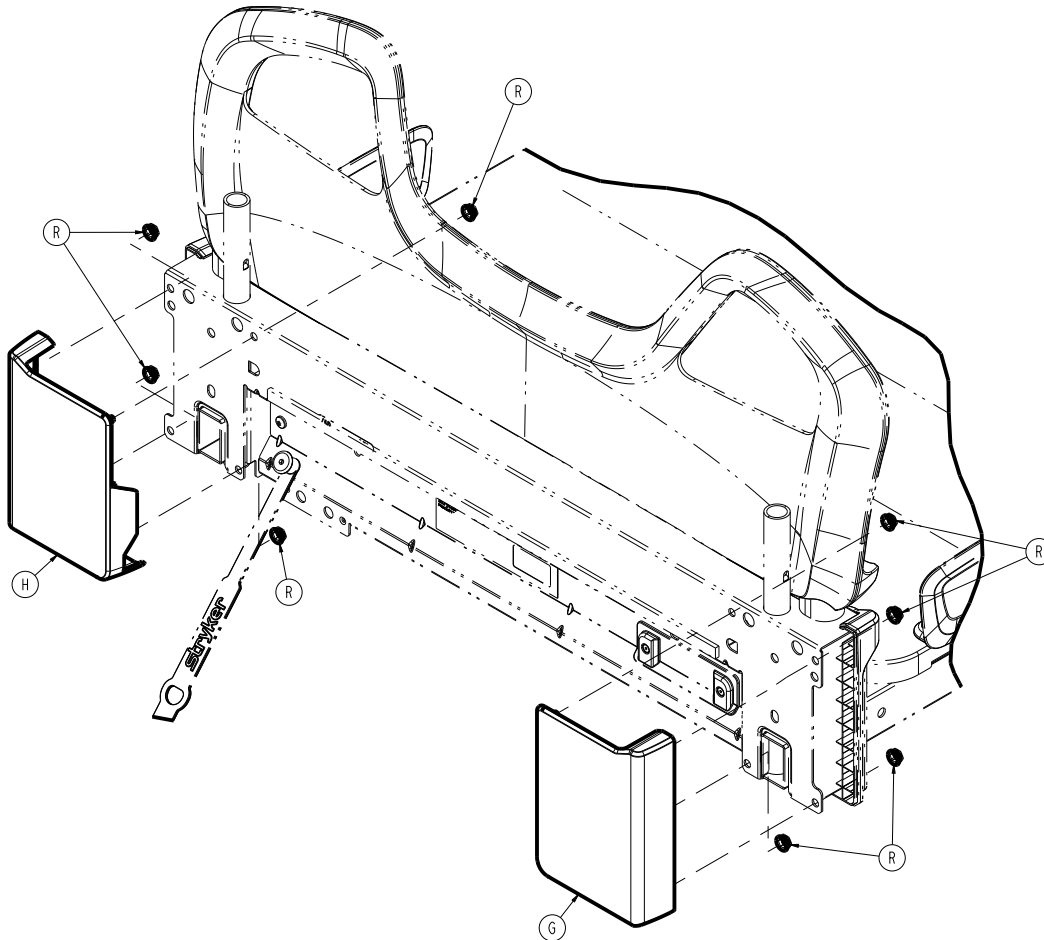

Figure 25 – Replacing the bumper
5. Using a 7/16" nut driver, remove the four nuts (R) that secure the rear head bumper (G, H) (Figure 25). Save the nuts. Remove and discard the bumper.